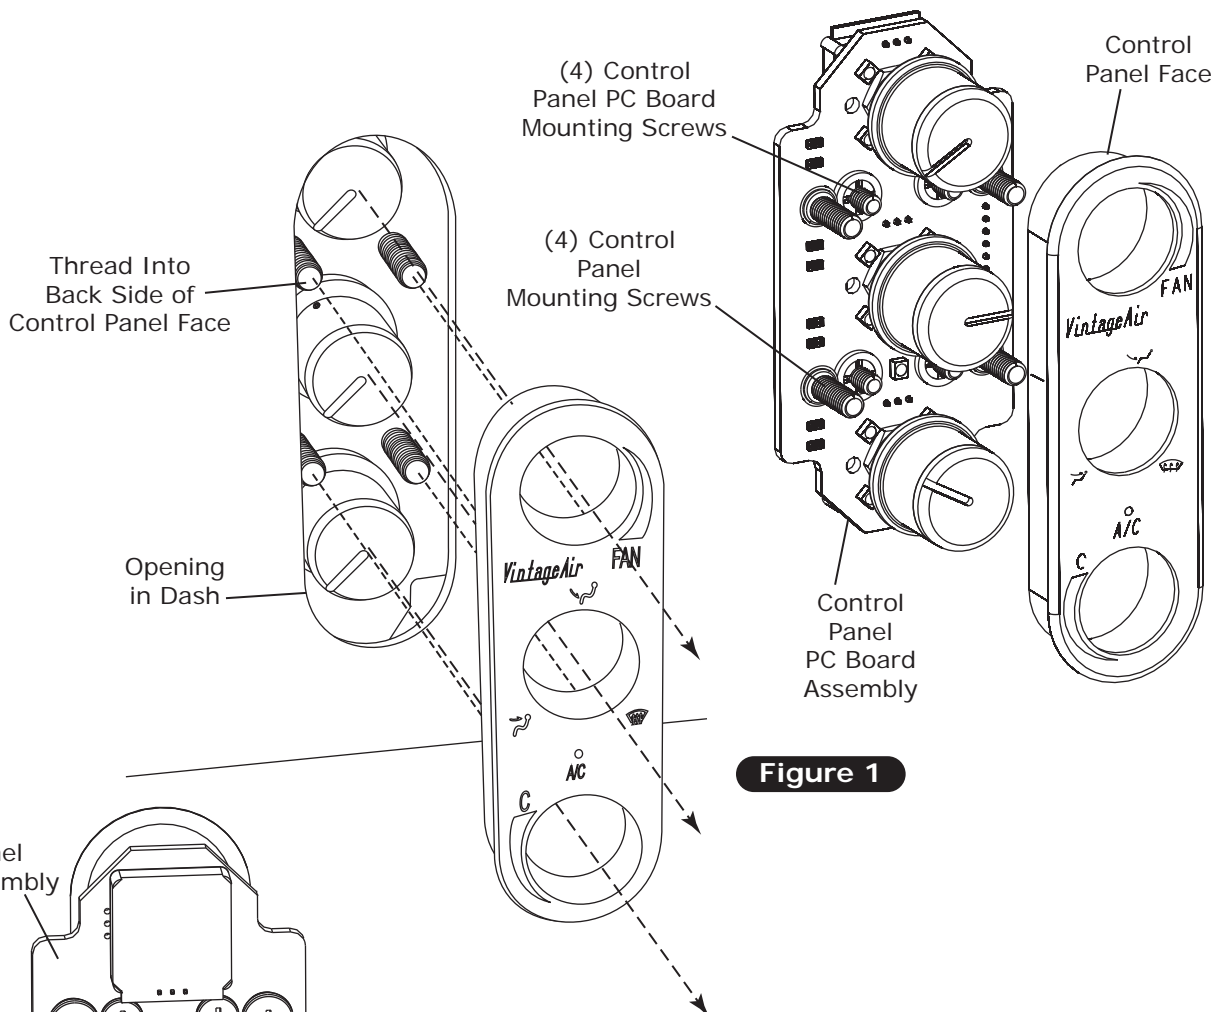

Figure 1
4. Install the control panel face through the opening in the dash. Place the control panel PC board assembly behind the dash, and secure it to the control panel face using the (4) 8-32 x 3/8" screws (See Figure 1 and 2a, Page 5). **NOTE: When tightening the control panel mounting screws, hand tighten until the screw contacts the back side of the dash. Then, using a screwdriver, tighten an additional 1/2 turn. Do not over tighten, as this may cause damage to the PC board or the dash.**